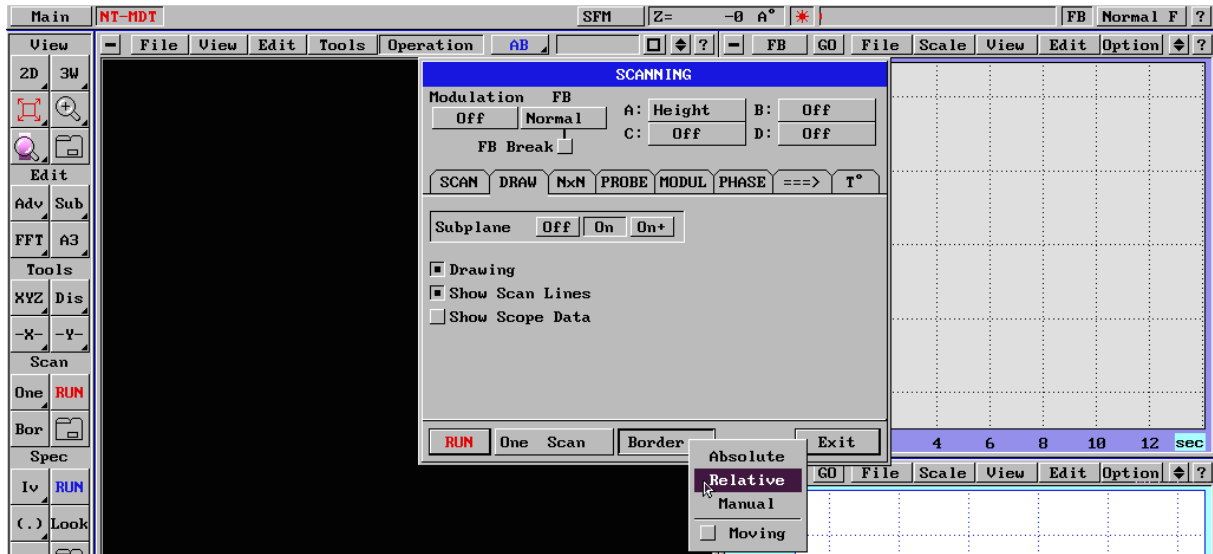

Fig. 231
After this we switch over to the contact mode (see item 3.2.7) and before starting scanning using the "Border" - "Relative" command (Fig. 231) we will select an area in the center of an area scanned with a smaller size - 200x200 nm (the size can be modified by changing the scanning step in the "Border" mode by moving while holding the Shift key).